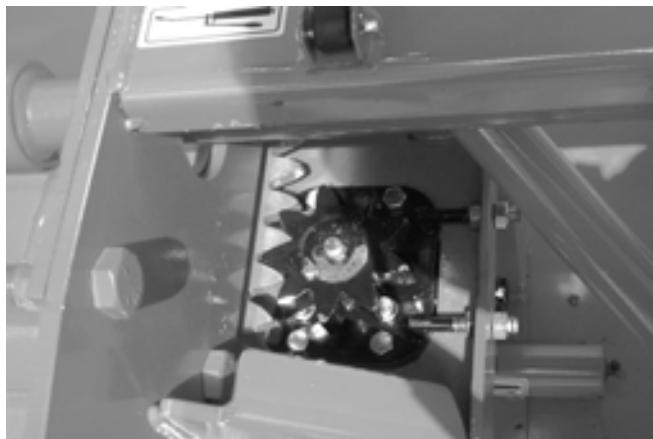

Figure 27
- 4) Using the take-up screws, adjust gear to mesh without bottoming (Fig. 27).